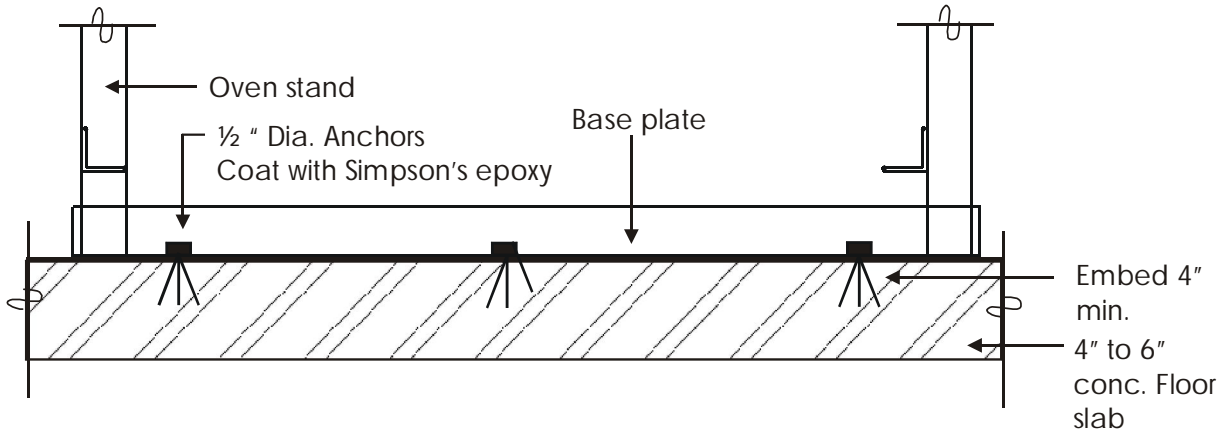

FIGURE 17-A
Slowly lower oven into proper location. Oven should be set on a level floor. Shim as necessary to assure that oven is level. Remove horizontal front angle when oven is in place. Insert ramset red heads, min. of 3 inches in length, through base plates. (See fig 17-A pg. 7 in installation instructions)
4. Once the oven is in the desired position, drill holes for the anchor bolts (Min 4 inches deep) using the base plates as a guide. Insert anchors to fasten oven base plates to concrete floor. (Fig 17-A pg. 8) Use ½” Dia. Anchors, 3 anchors each side. (Coat with Simpson's Epoxy)